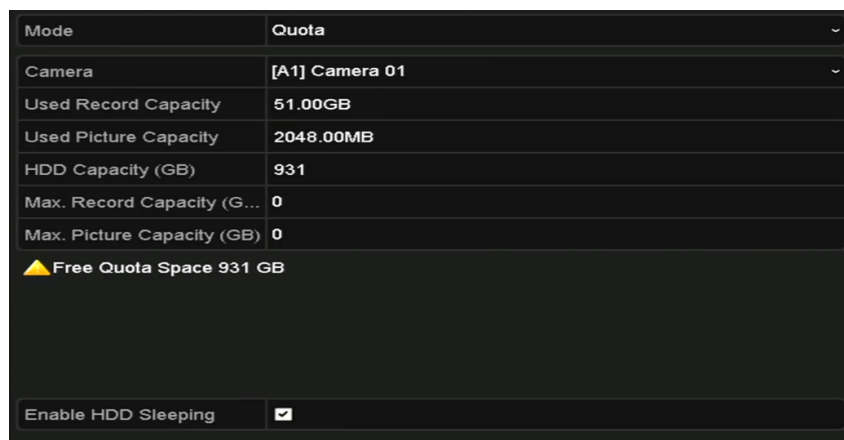

Figure 12-16 Storage Mode Settings Interface
Step 3 Set the **Mode** to Quota, as shown in Figure 12-16.